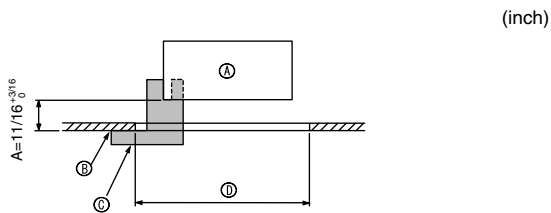
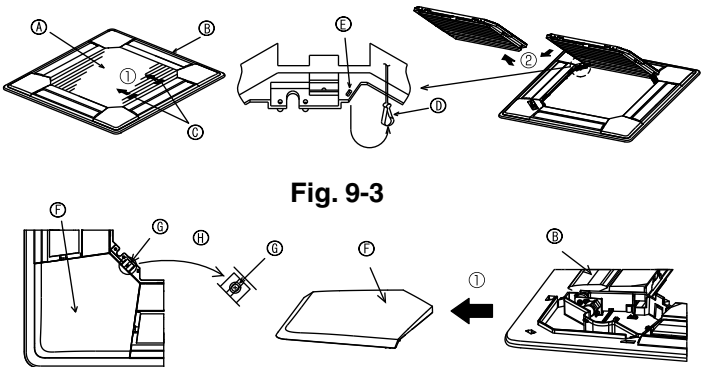
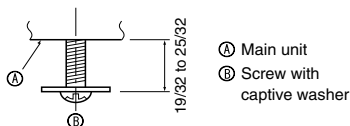

Fig. 9-2
Fig. 9-3
Fig. 9-4
①	Grille	1	950 × 950 (mm), 37-3/8 × 37-3/8 (inch)
②	Screw with captive washer	4	M5 × 0.8 × 25
③	Gauge	1	(Divided into four parts)
④	Fastener	3
⑤	Screw	4	4 × 8
⑥	Screw	1	4 × 12
9.2. Preparing to attach the grille (Fig. 9-2)
- With the gauge ③ supplied with this kit, adjust and check the positioning of the unit relative to the ceiling. If the unit is not properly positioned relative to the ceiling, it may allow air leaks or cause condensation to collect.
- C Gauge ③ (inserted into the unit)
9.2.1. Removing the intake grille (Fig. 9-3)
- Slide the levers in the direction indicated by the arrows ① to open the intake grille.
- With the intake grille in the "open" position, remove the hinge of the intake grille from the grille as indicated by the arrows ②.
9.2.2. Removing the corner panel (Fig. 9-4)
- Remove the screw from the corner of the corner panel. Slide the corner panel as indicated by the arrow ① to remove the corner panel.
[Fig.9-3] [Fig.9-4]